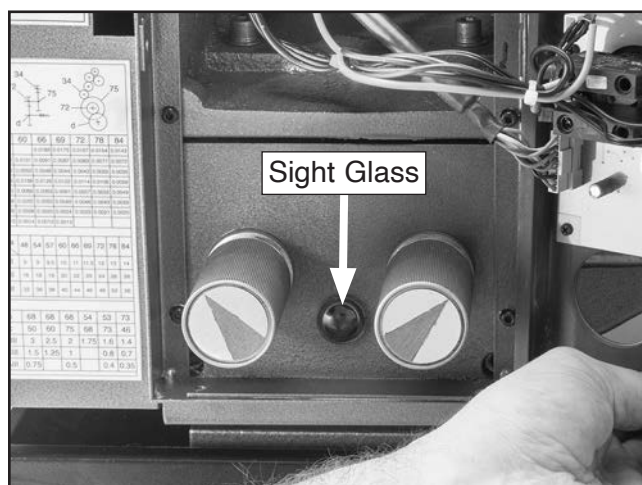

Figure 120. Location of gearbox oil sight glass.
9. Add oil to fill plug hold until oil level is at halfway point in sight glass (see **Figure 120**), then install fill plug.